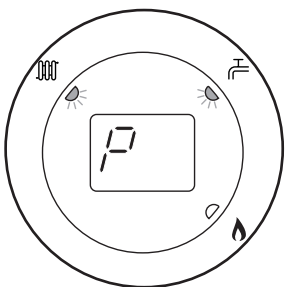
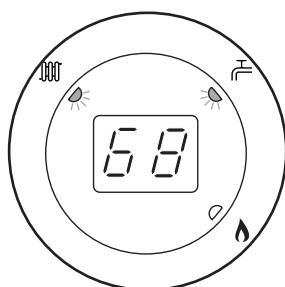

Fig. 57
Fig. 58
7. Turn CH temperature control knob fully clockwise. As the knob is turned the display will change from '0' to '00' (Fig. 58) indicating maximum rate, then revert to 'P' alternating with the current boiler temperature (Figs 57 & 58).